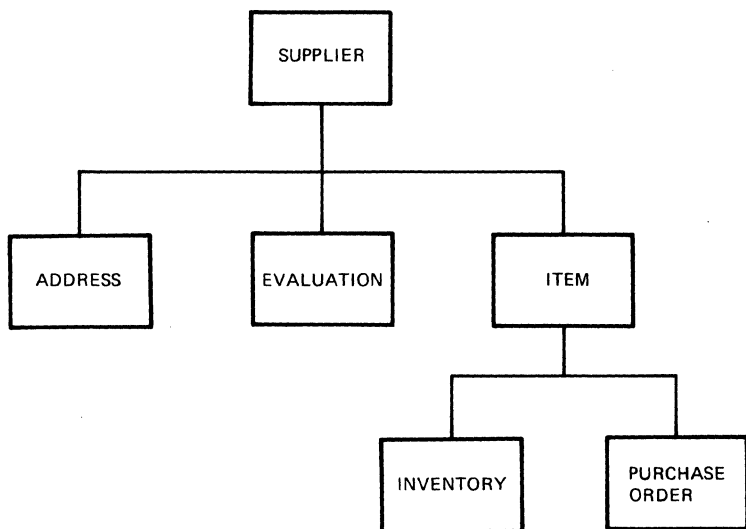
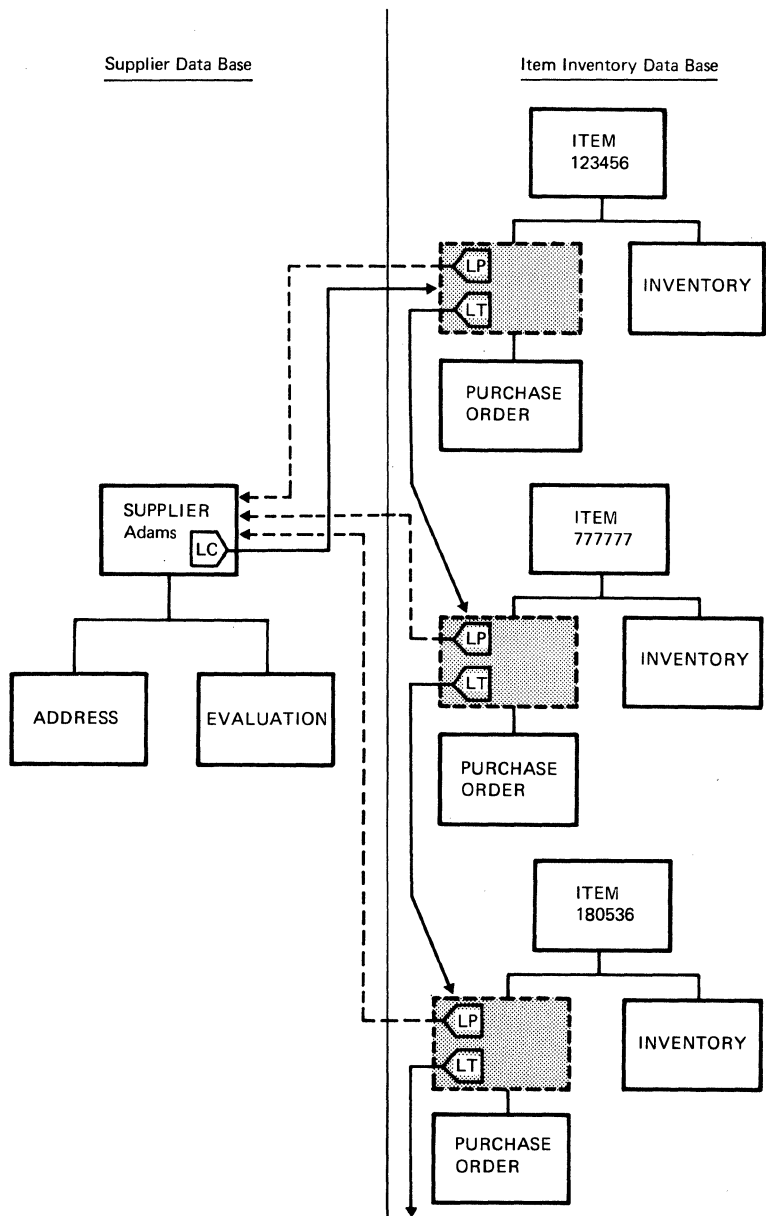
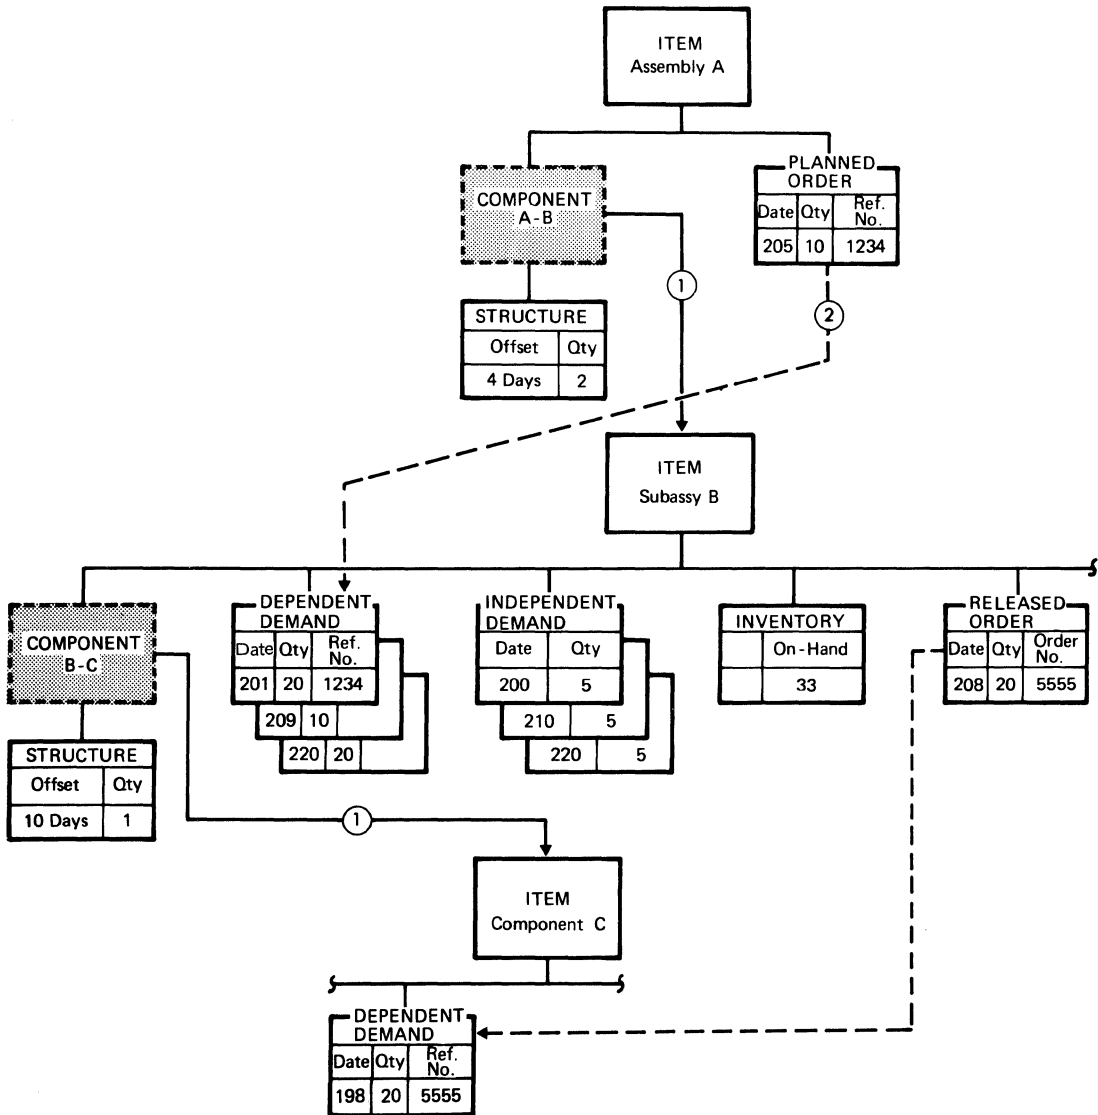

Figure 14. Logical data structure of a supplier record
Figure 15. Logical twin pointers
Figure 23. Basic product definition data used for MATERIAL REQUIREMENTS PLANNING
Another application program might define a supplier structure as shown in Figure 14. Here ITEM is a dependent of SUPPLIER. It is now possible to access a SUPPLIER segment and through it retrieve all purchase orders for items furnished by that supplier.
The logical structuring of data as shown in Figure 14 is made possible by the creation of additional pointers called *logical twin* pointers. Such pointers connect the logical children of a parent segment. In the example in Figure 15, children and parent pointers are in different physical data bases. All items provided by any single supplier are connected as logical twins (LT).
Figure 23 shows the basic data held in the product definition records and used in planning the requirements of a subassembly B, which is used in assembly A and also sold as a service part. In order to assemble B, the component C is needed.
It has already been shown (Figure 15) that, using the COMPONENT pointer 1, a logical structure for an assembly and its components can be regrouped for processing. An additional pointer between PLANNED ORDER and DEPENDENT DEMAND is not required. The relationship, shown by line 2 in Figure 23, is established by a common reference